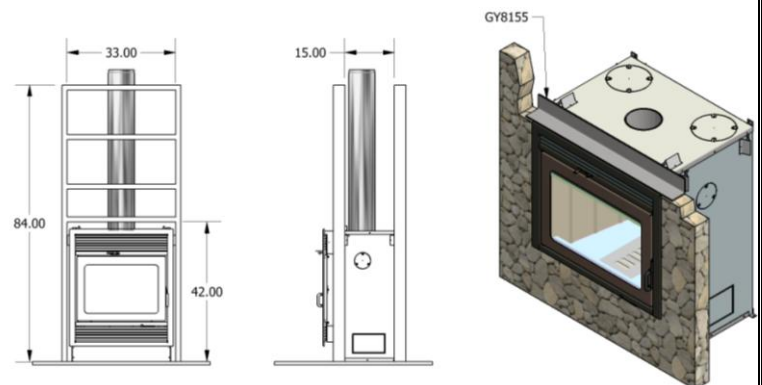

Figure 15 – Gravity Kit Installation for Clean Face Configuration
- The hot air grilles of the Gravity Kit should be at least 68 inches from the floor and the ducting should have a maximum length of 10 feet (see Figure 15).